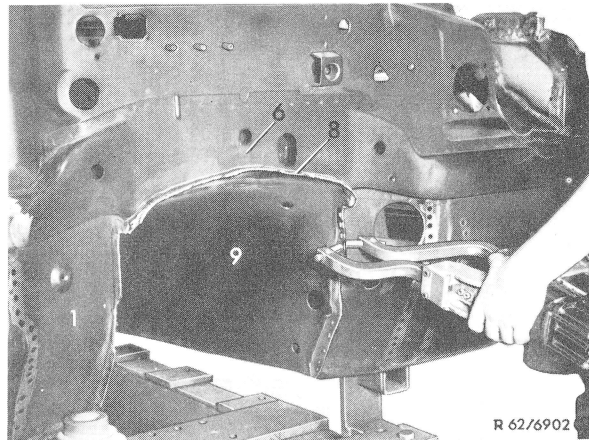

Figure 4
**19** Weld front wall (1) to connection sheet (7) by stringwelding (8).
**20** Spotweld front wall (1) to tunnel (9).
**Note:** In range of front wall reinforcement (6), tunnel (9) must be connected by stringwelding (8) (Fig. 4).